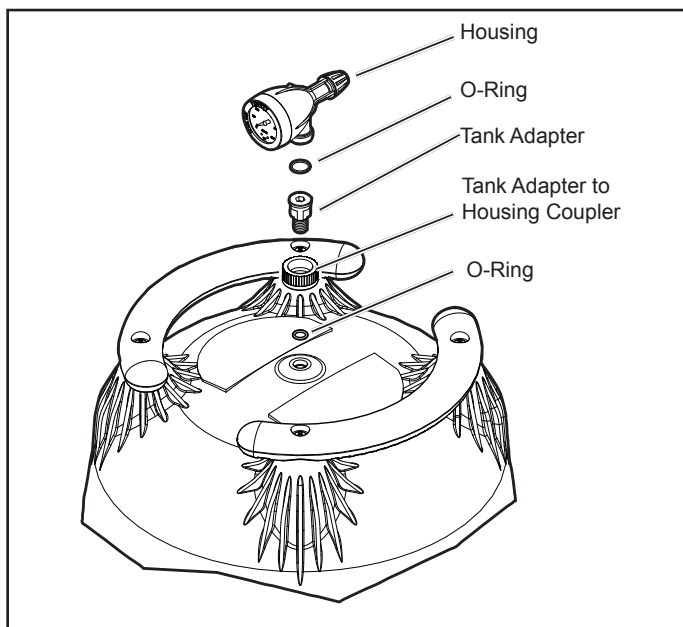

Figure 5. Pressure Gauge/Air Release Assembly
- a. Place the smaller, thicker o-ring onto the threads of the tank adapter, see Fig. 5. Slide the tank adapter through the coupling nut and into the filter tank. Use the flats on the tank adapter to tighten. Do not overtighten.
9. Support the inlet/outlet pipes independently to prevent any undue strains on the filter's two (2) or three (3) port diverter valve.